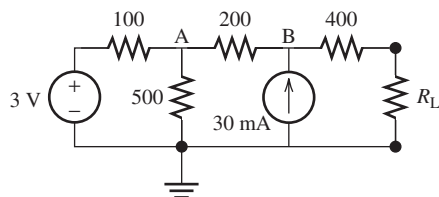

FIGURE P3.66 Circuit for Problem 3.66.
3.66 (H) If $R_L = 0$, which source in Figure P3.66 contributes the most to the power dissipated in the 500-Ω resistor? Which contributes the least? What is the power dissipated in the 500-Ω resistor? Does it equal the sum of power dissipation contributed by each source?